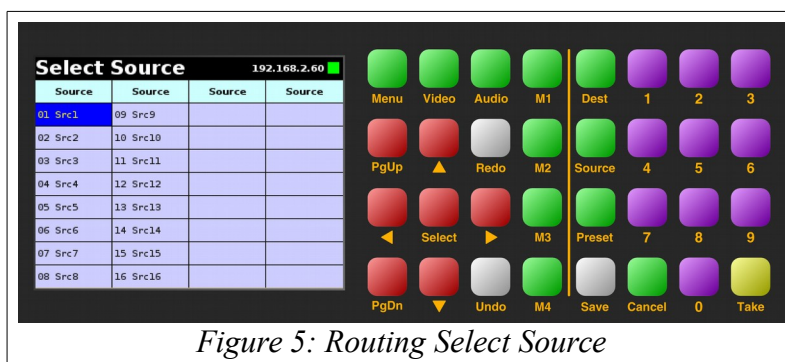

Figure 5: Routing Select Source
3. The **Select Source** page is shown with the currently connected source highlighted (Figure 5).